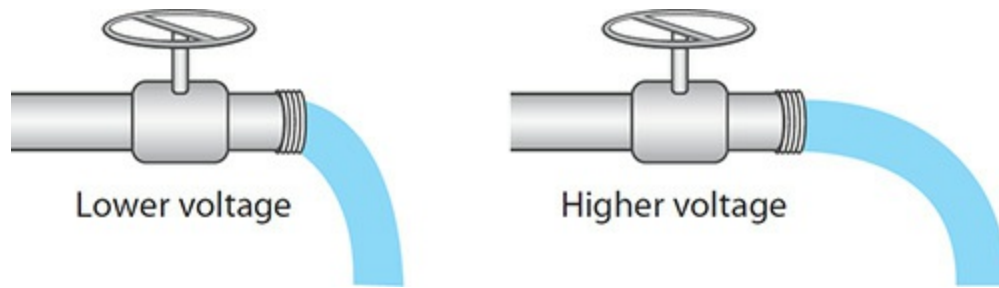

Figure 7-2 Electrical voltage as water pressure
The pressure of the electrons in the wire is called *voltage* and is measured in units called *volts (V)*. See Figure 7-2.